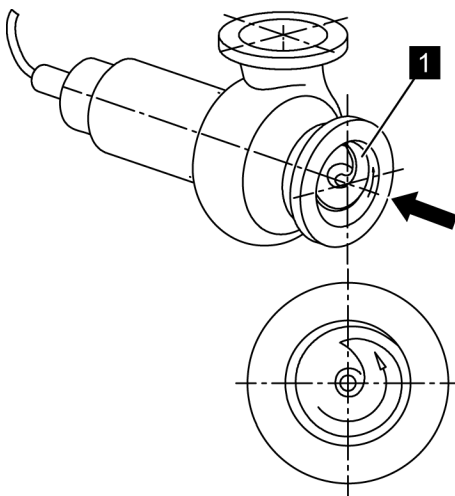
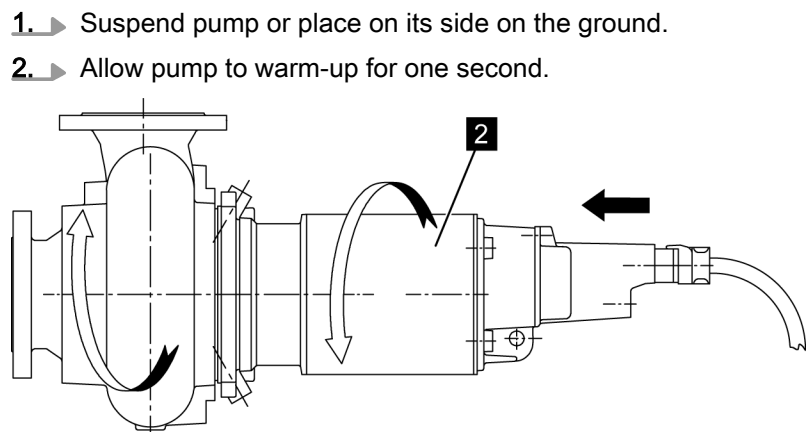

Fig. 33
Fig. 34
3. ➔ Ensure that rotational direction of impeller (1) is counter clockwise as seen from suction end (Fig. 33). The starting jerk must act counter clockwise as seen from the drive end of the motor (2) (Fig. 34).